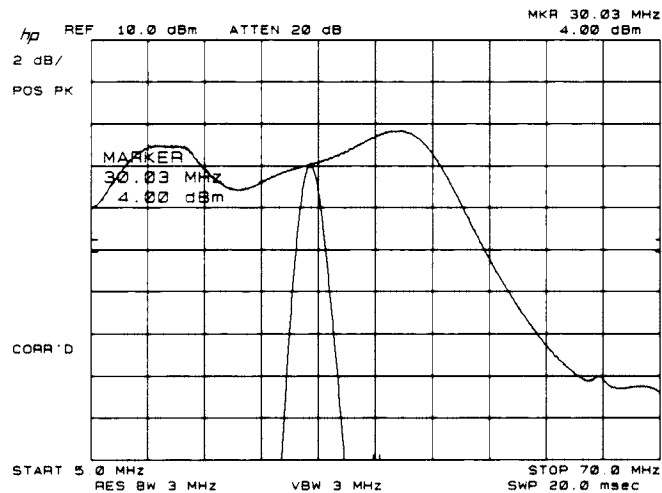

Figure 3-76. Tuning the IF OUT Fundamental
50. On the synthesized sweeper, key in **(SHIFT) (CW) (↑) (↑)** to set the CW RES to 0.001 MHz. Then, use the ENTRY knob to gradually tune the synthesized sweeper up and down from the frequency set in step 41, tuning the IF OUT fundamental (displayed on the second spectrum analyzer) from 5 MHz to 70 MHz as shown in Figure 3-76.